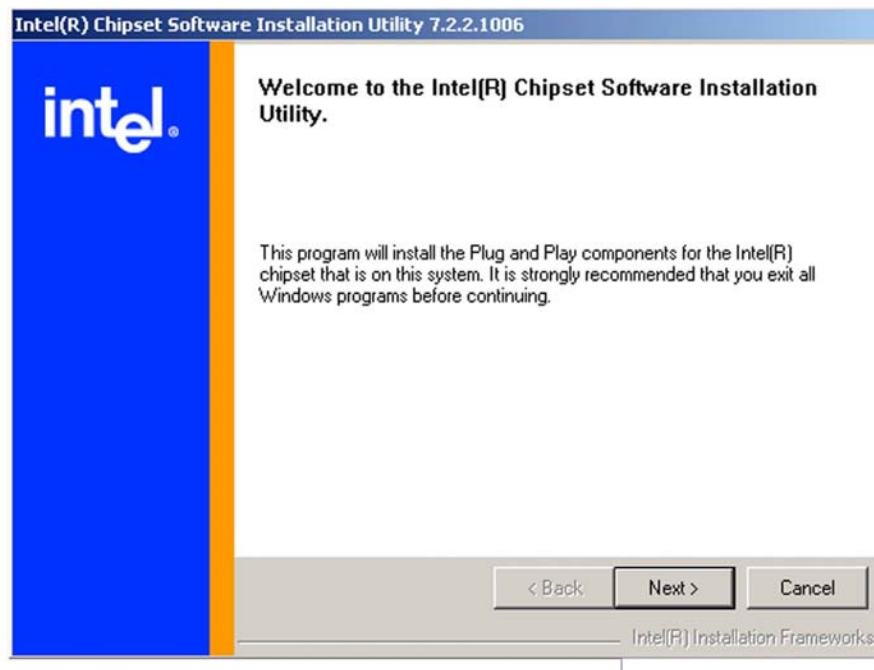

Figure 6-2: Chipset Driver Installation Welcome Screen
Step 3: Once the files are extracted, a welcome screen shown in **Figure 6-2** appears.
Step 4: After the welcome screen shown in **Figure 6-2** appears, to continue the installation process click the “**NEXT**” button. The license agreement shown in **Figure 6-3** will appear.